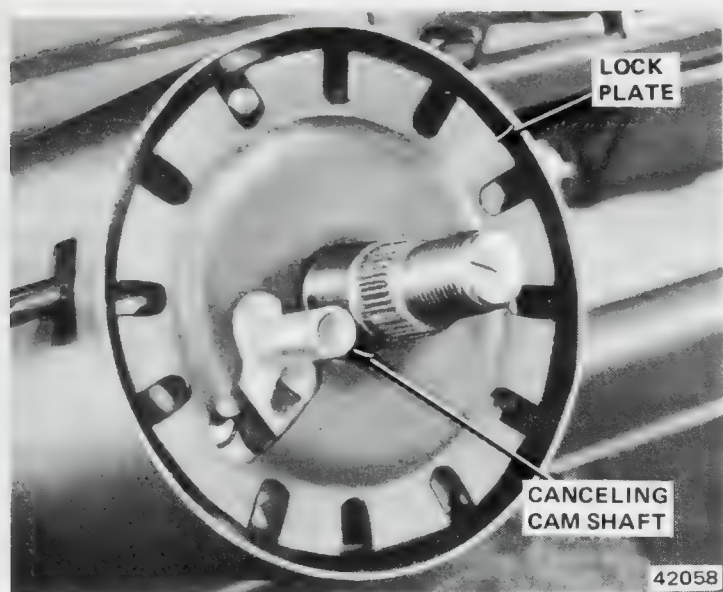

Fig. 2H-21 Lock Plate Alignment
- (1) Disconnect battery negative cable.
- (2) Cover painted areas of steering column.
- (3) On cars with tilt column, place column in neutral (straight) position.
- (4) Remove steering wheel. Refer to Steering Wheel Removal.
- (5) Remove lockplate cover.
- (6) Compress lockplate and unseat steering shaft snap ring as follows:
- (a) Identify steering shaft nut thread-type. Metric shafts have identifying groove in shaft steering wheel locating splines (fig. 2H-2). American thread shafts do not have this groove.
- (7) Remove compressor tool and snap ring. Discard snap ring.
- (8) Remove lockplate, canceling cam, and upper bearing preload spring and thrust washer.
- (9) Place turn signal switch lever in right turn position and remove lever and switch retaining screws.
- (10) Press hazard warning light switch button inward and remove it by turning counterclockwise.
- (11) Remove package tray, if equipped.
- (12) Remove lower finish panel or steering column tube cover.
(13) Loosen toeplate bolts.
(14) Disconnect turn signal switch wire harness connector from column connector. Lift locking tab, and separate signal switch harness from instrument panel harness.